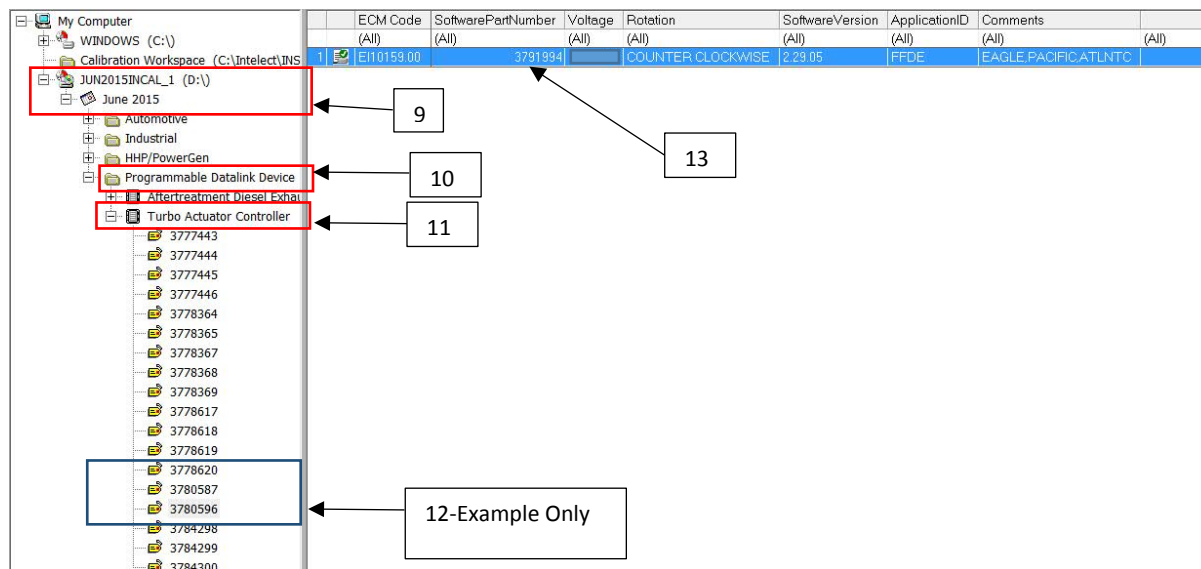

Figure 4. Actuator Hardware Number and Software Selection Screen
4. Expand the drive and month of the INCAL™(Calibration Workspace) [9]. Figure 4.
5. Select Programmable Datalink Device [10]. Figure 4.
6. Expand Turbo Actuator Controller [11]. Figure 4.
7. Select the Turbo Actuator Controller (Actuator Hardware Part Number) [12] that matches the number documented in step 3. Figure 4.